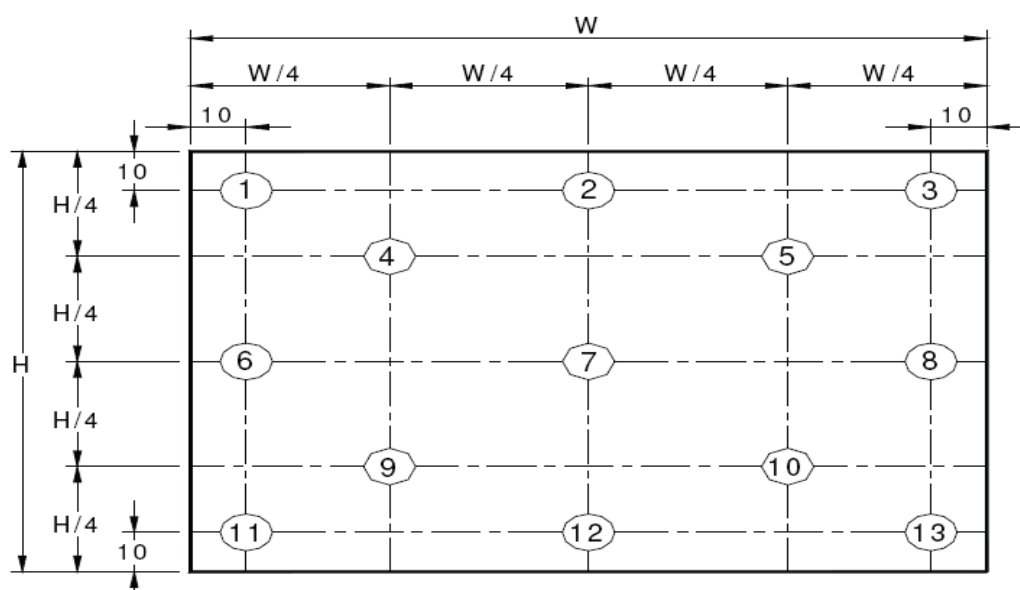

Figure 9. Uniformity Measurement Locations (13 points)
4. The White luminance uniformity on LCD surface is then expressed as : $\Delta Y = \text{Minimum Luminance of 5(or 13) points} / \text{Maximum Luminance of 5(or 13) points.}$ (see Figure 8 and Figure 9).
The White luminance uniformity on LCD surface is then expressed as : ΔY_5 = Minimum Luminance of five points / Maximum Luminance of five points (see Figure 8) , ΔY_{13} = Minimum Luminance of 13 points /Maximum Luminance of 13 points (see Figure 9).